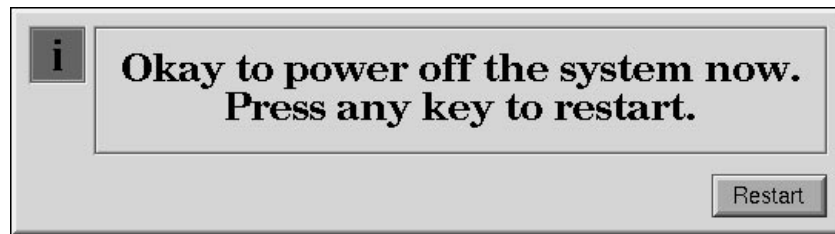

Figure 7-3 Okay to Power Off Notifier
3. After a few seconds, the screen clears and when you see the notifier shown in Figure 7-3, click on the *Restart* button.